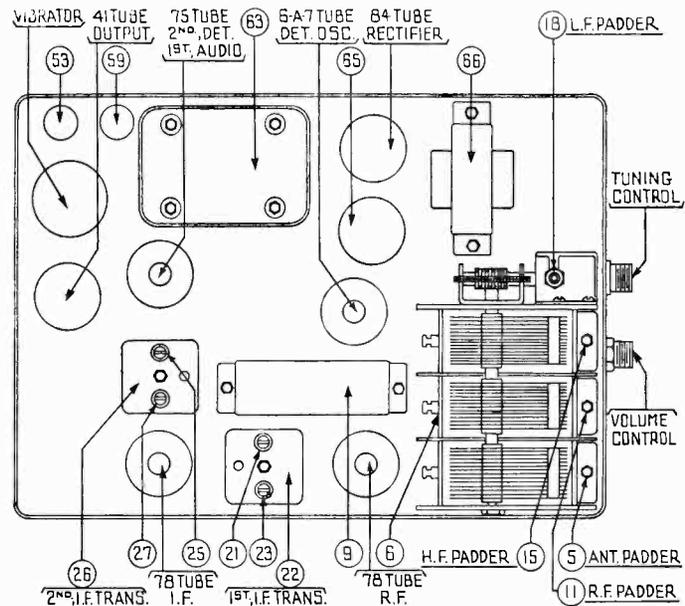

FIGURE 4
Both the primary and the secondary padders are placed side by side in the top of the transformer shield can. The adjusting screws are accessible thru the holes in the top of the shield. (See Figure 4).
Adjust the secondary screw padder (27) on the second I. F. transformer for maximum reading on the output meter. Then adjust the primary screw padder (25) for maximum reading. (See Figure 4 for location of padders).
Connect the generator lead to the grid cap of the 6A7 tube in series with a .1 mfd. condenser (without removing the grid cap). Adjust the secondary screw padder (23) on the first I. F. transformer for maximum reading on the output meter. Then adjust the primary screw padder (21) for maximum reading. Readjust padders (25) and (27) with the generator lead connected to the type 6A7 tube. (See Figure 4 for location of padders).